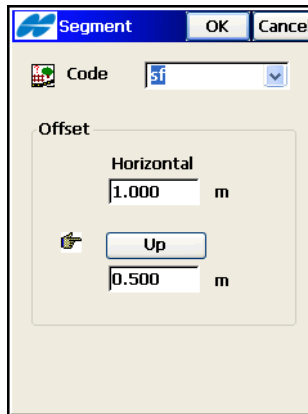

Figure 7-27. Segment Screen
- **Edit** – opens the ***Segment*** screen (Figure 7-27 on page 7-29) with the parameters of the highlighted segment.
The ***Segment*** screen (Figure 7-27 on page 7-29) contains the parameters of the highlighted segment